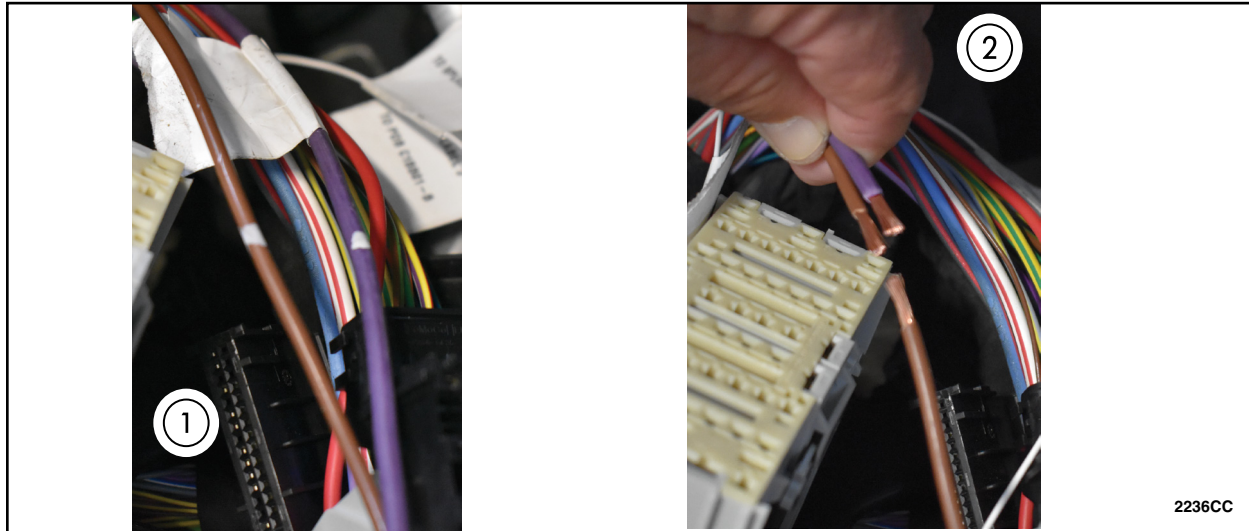

FIGURE 35
40. Taking the purple wire from the aux box harness, make a mark about one inch up from the label. Cut both the violet and the brown wires. See Figure 35.